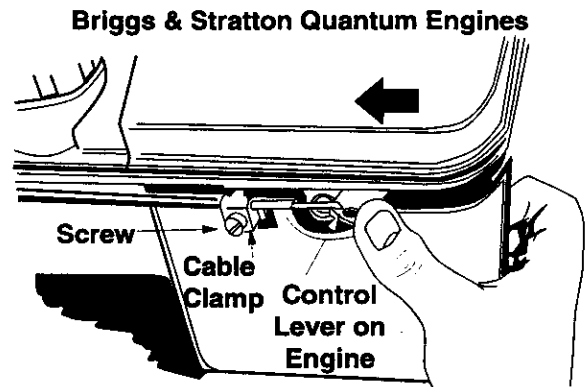
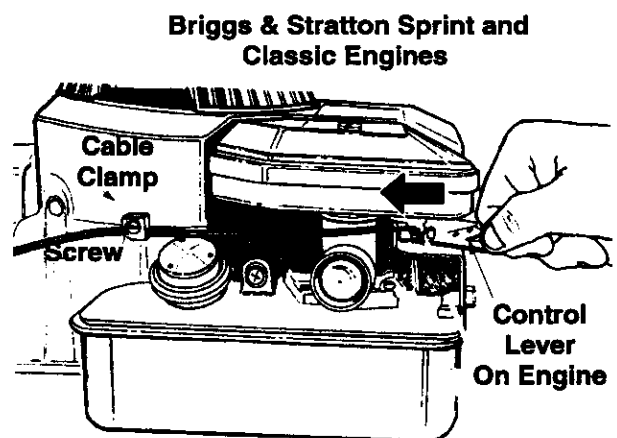

Figure 17
Figure 19
1. Remove the screw shown in Figure 17 and Figure 19. Remove the cable clamp from the cable.